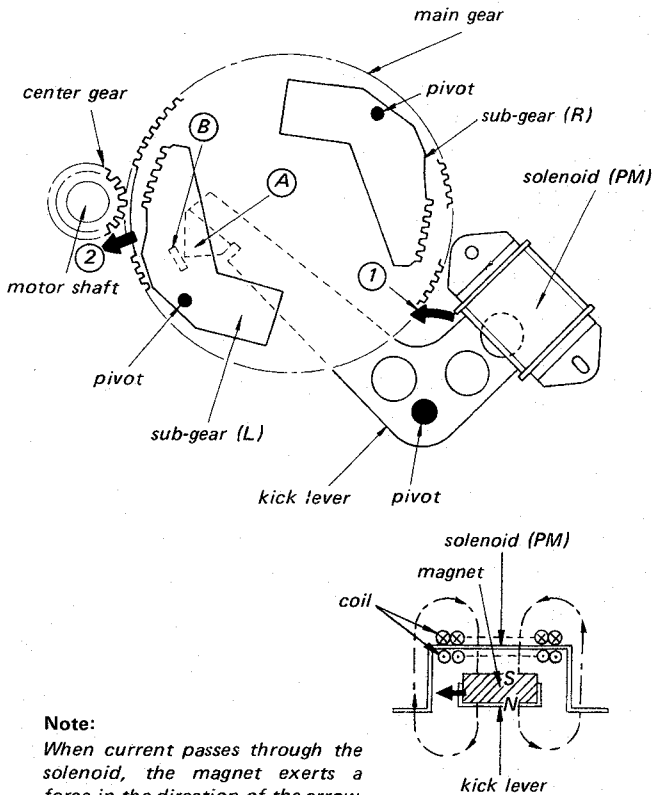
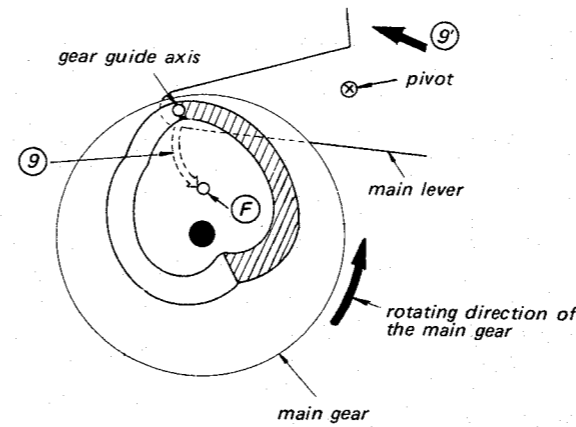

Fig. 1-2.
Fig. 1-7.
1. When the metal part of the START/STOP button is touched by the hand, the system control circuit is activated, resulting in the motor commencing to rotate, and current flowing through the solenoid (PM).
2. With current flowing through the solenoid, the kick lever is pulled in direction ①, resulting in tip A of the kick lever pushing against part B of the sub-gear (L). This sub-gear is thus pushed out in direction ② to engage the center gear mounted on the motor shaft. (See Fig. 1-2.)
3. Once the revolving center gear engages the sub-gear (L), the main gear will commence to rotate in the counterclockwise direction due to the driving force supplied by the motor. It will stop again in the position shown in Fig. 1-7.
- While the record is being played, the main gear and main lever are in the positions as shown in Fig. 1-7.
- If the START/STOP button is touched during play, or if the record finishes playing, the systems control circuit is activated. A current flows through the solenoid (PM), and the kick lever moves in the same way as at the beginning of record play (see Fig. 1-2). This time, however, the sub-gear (R) is pushed back and engaged with the center gear, thus rotating the main gear again in the counterclockwise direction.
- The gear guide axis at the tip of the main lever is moved across to position (F) by following the curved path (9) due to the guiding action
of the shaded portion of the groove in the heart-shaped cam positioned on the main gear. The main lever consequently moves across in the direction of the arrow (9) (see Fig. 1-7).